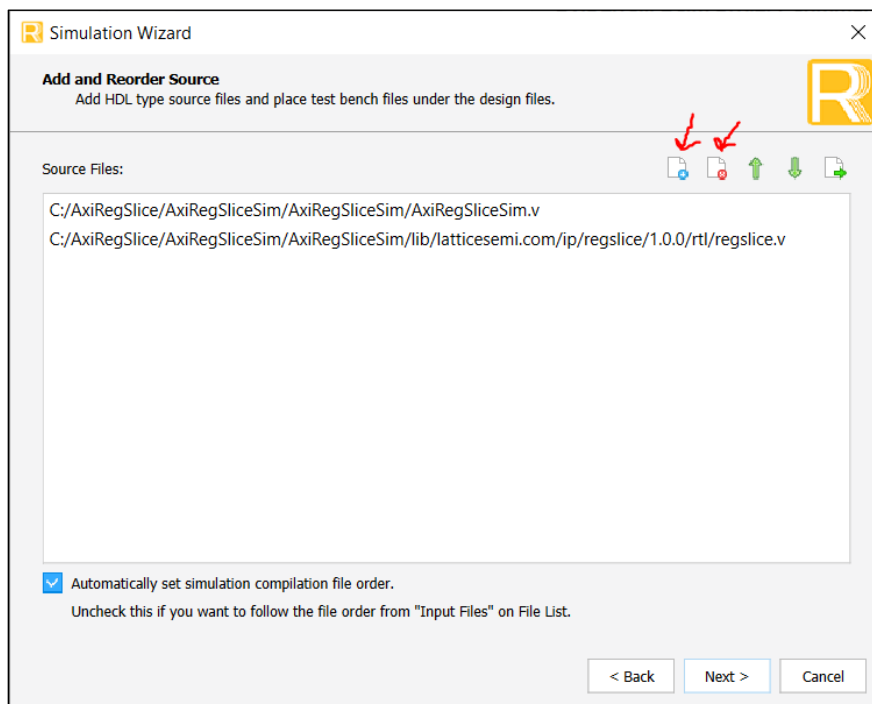

Figure 2.27. Adding and Reorder Source
14. Remove the automatically added files and then click on the **Add simulation source files(s)** button as shown in Figure 2.27.